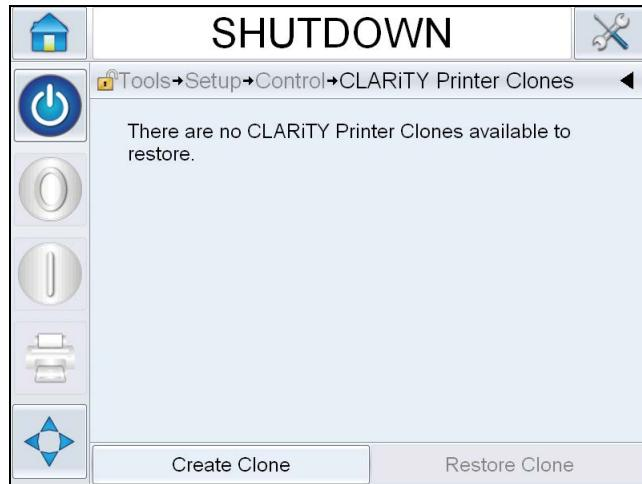

Figure 5-22: Create Clone
- 4 If there are no previous clones available to restore, you will see the message as shown in the Figure 5-22. Touch *Create Clone*.